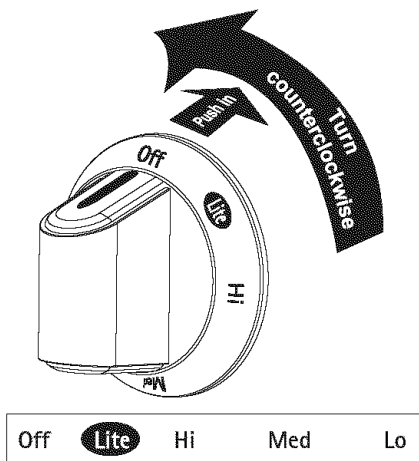

Figure 2
3. Release the knob and rotate to the LITE position (see figure 2). Note: All electronic surface ignitors will spark at the same time. However, only the burner you are turning on will ignite.